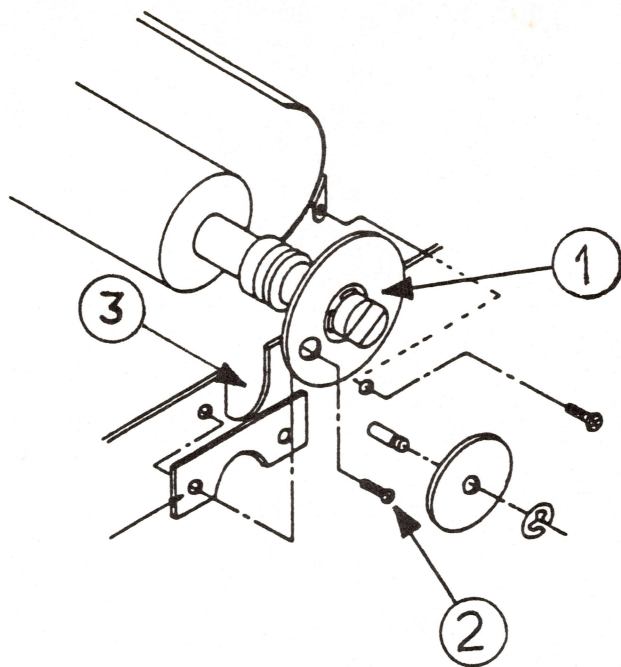

FIGURE 1
2. On the right side of the platen, rotate the paper feed gear (see Figure 1, #1) until the hole in it lines up with the platen shaft holder screw (see Figure 1, #2). Remove the screw and the platen shaft holder.